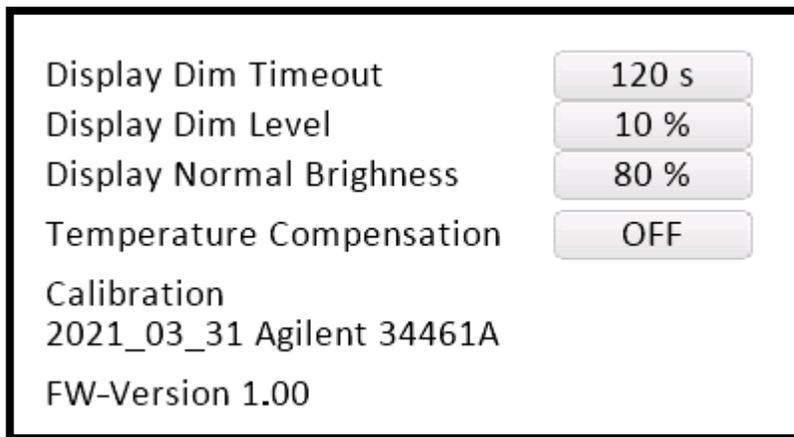

Figure 19. MAXREFDES183# Display Dimming.
24. System Settings allows the user to adjust a few settings (**Figure 19**).